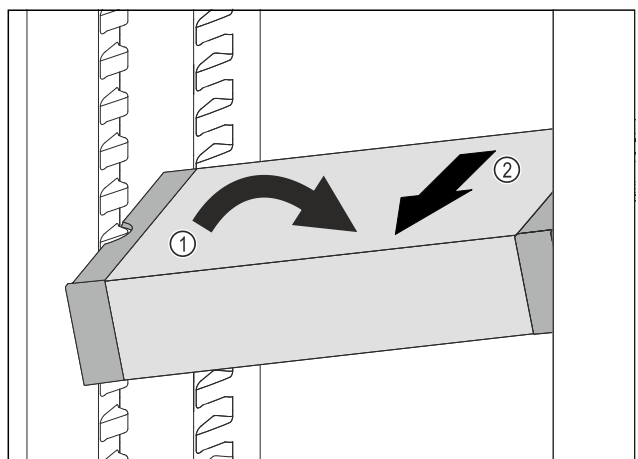

Fig. 113
- ▶ Set VarioSafe in refrigerator compartment at an angle. Fig. 113 (1)
- ▶ Take VarioSafe out to the front. Fig. 113 (2)